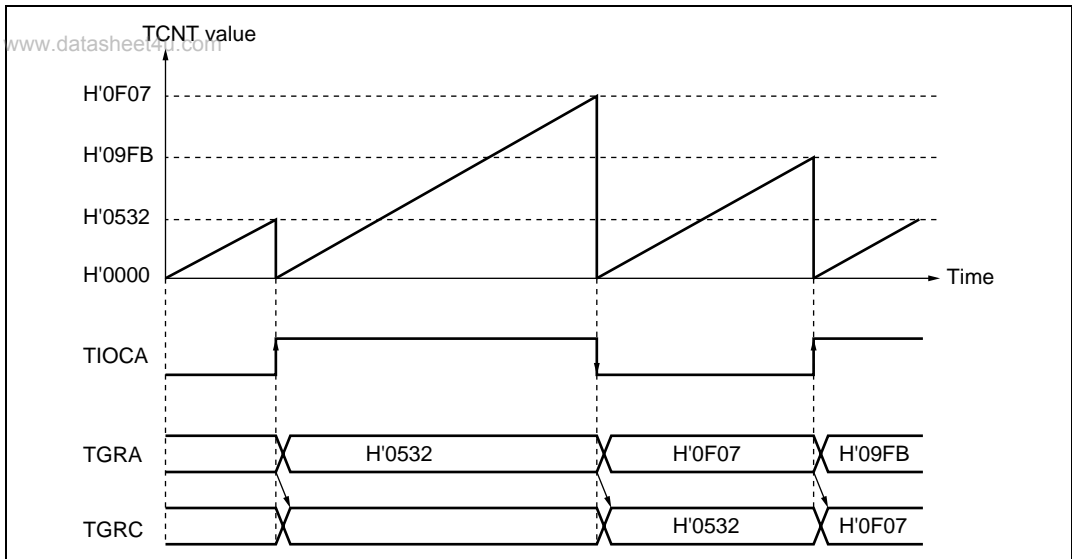

Figure 10.17 Example of Buffer Operation (2)
- Figure 10.17 shows an operation example in which TGRA has been designated as an input capture register, and buffer operation has been designated for TGRA and TGRC. Counter clearing by TGRA input capture has been set for TCNT, and both rising and falling edges have been selected as the TIOCA pin input capture input edge. As buffer operation has been set, when the TCNT value is stored in TGRA upon the occurrence of input capture A, the value previously stored in TGRA is simultaneously transferred to TGRC.